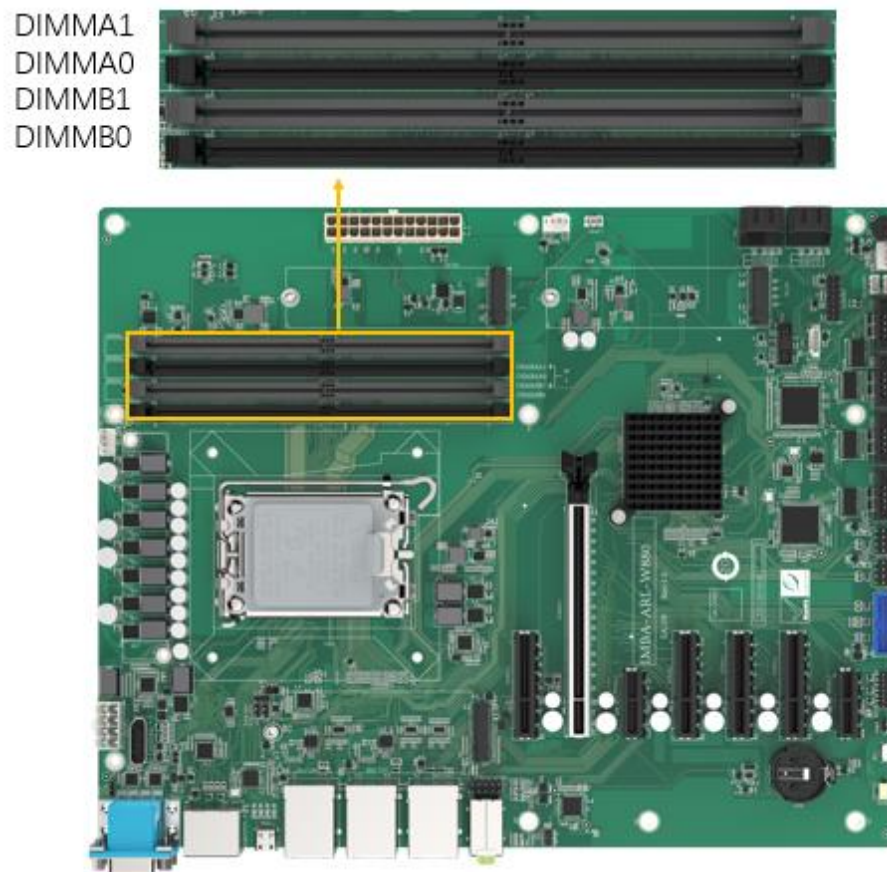

Figure 3-20: DDR5 DIMM Sockets Location
**CN Location:** See Figure 3-20